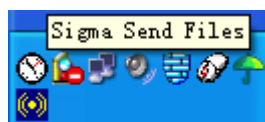

Fig. 5.48 Down-counter for sending files
Step 3: Set the time of sending and click , then a clock icon will appear in the taskbar of the computer like Fig.5.48. It is counting down and when it goes to the pre-scheduled time, the files will be sent.